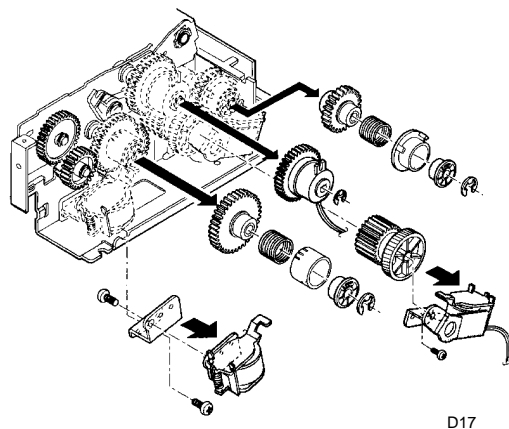

Figure 2. Removing the Clutches and Solenoids
4. (Figure 2): Remove the Solenoids and Clutches shown. Keep the parts together. Be especially careful with the springs they are different.